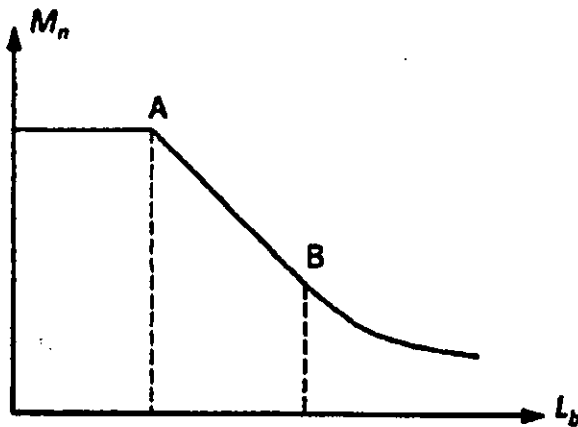

Fig.4
8. The interaction between moment capacity,  $M_n$ , and unbraced length,  $L_b$ , of a beam can typically be represented as shown in Fig.4. For a W21x48 section, determine the value of moment and unbraced length corresponding to point A in Fig.4
(b): A 16 × 18 inch column is reinforced with eight No. 9 bars as shown in Figure 4. Find two points ( $P_n$ & $M_n$ ) on the nominal strength interaction diagram which correspond to $\epsilon_s = 0.001$ (tensile) & purely axial load. Also, determine ' $\phi$ ' values for the above points. Assume bending about major/strong axis. Given: $f'_c = 4$ ksi, $f_y = 60$ ksi and $E_s = 30000$ ksi.	(22)